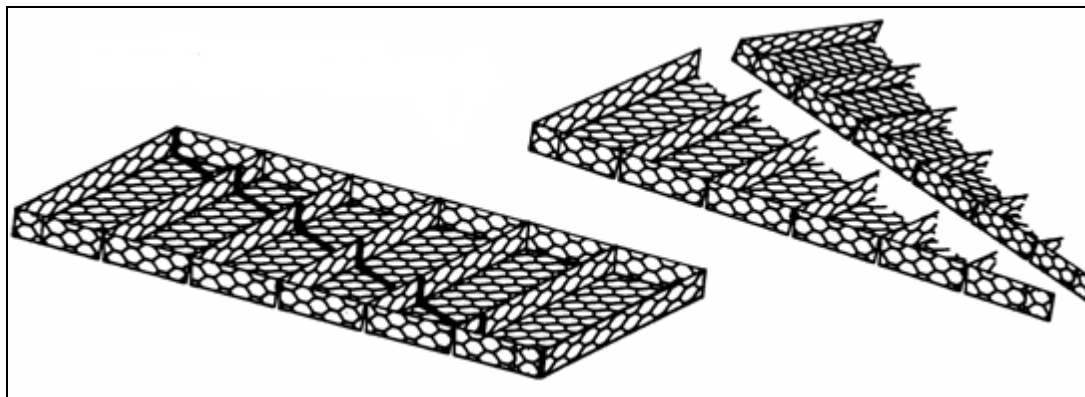

Fig. 19 - Method 1
- Method 1 - Mattresses are to be cut and butted to form curves (Fig. 19);